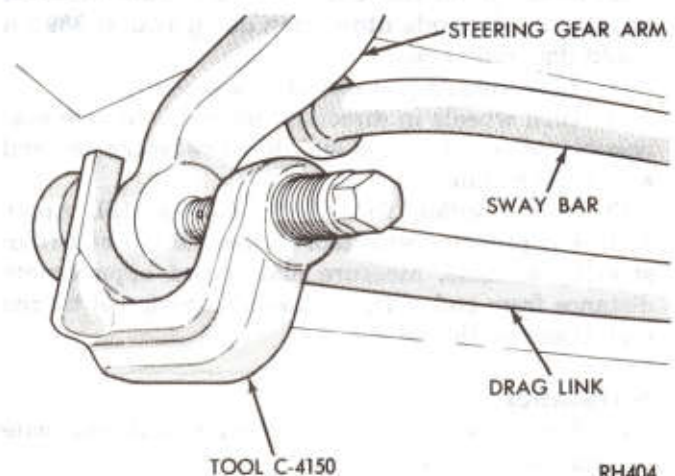

Fig. 16—Removing Drag Link with Tool C-4150
- (1) Raise vehicle and install jack stands.
- (2) Turn wheels in direction to give best possible access to drag link. Remove cotter keys and nuts.
- (3) Install puller Tool C-4150 (Fig. 16). Apply sufficient pressure with tool to free drag link from steering knuckle arm and steering gear arm. Lower drag link from vehicle.